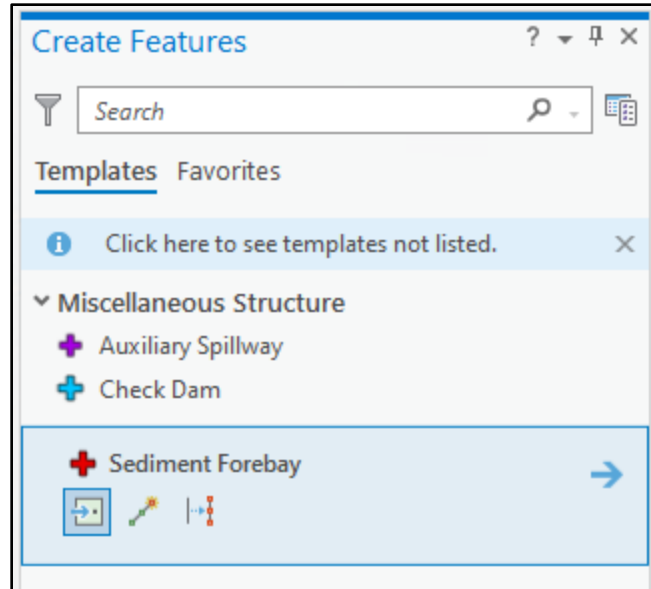

Figure 100
Step 2: Create a new feature in the correct layer. See instructions on how to create a new feature in **Section 3.5.2** (steps 1-5) of the drainage mapping guide. When placing the feature, snap to the location of the feature in the incorrect layer if keeping the same location or create the new feature where most accurate (see Figure 100). In this example, a sediment forebay is incorrectly mapped as an SCM. A new point is created in the Miscellaneous feature class at the location of the check dam.